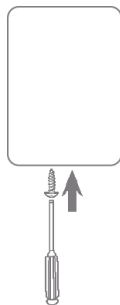

Figure 4
5. Secure with cover screw (see Figure 4).